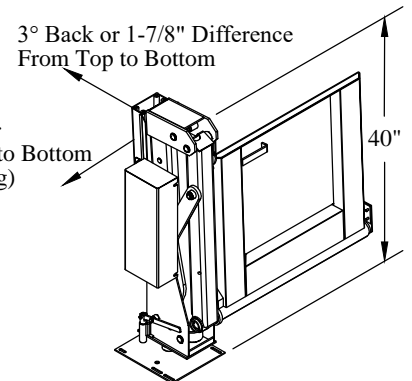
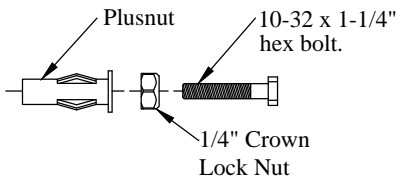

Figure 10: Liftgate properly tipped.
Figure 11: Plusnut Parts.
5. **Position** the liftgate so it is tipped 3 degrees back and 1 degree to the left (Figure 10).
8. **Locate** and **Drill** eight (8) 5/16" holes into the rear door header, using the top angle bracket as a guide. Choose eight (8) of the angle bracket holes without obstructions.
9. **Assemble** the Plusnut with the 1/4" crown lock nut and 10-32 x 1-1/4" hex bolt (Figure 11)